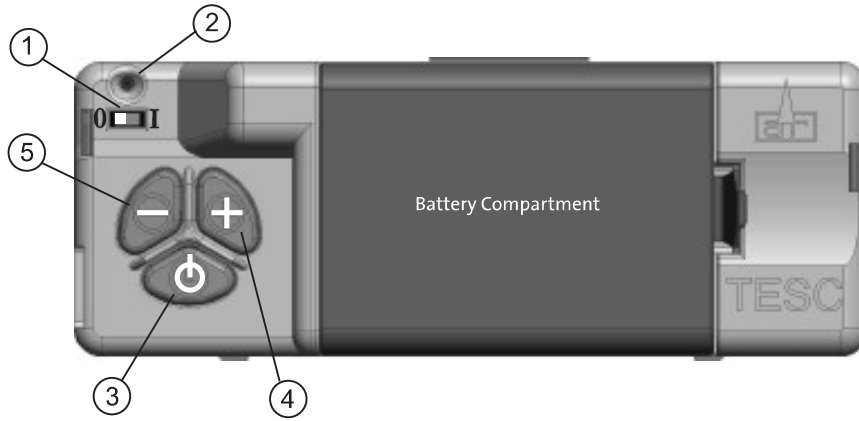

Figure 18. Valve Controls
The burner operates in conjunction with a pilot flame that is automatically lit when there is a call for heat by actuating either the valve controls or a remote control handset. The valve and burner controls are located under the firebox behind the access panel. See Fig. 18, page 16.
1. Slide the white Master switch to the left (O) position to disconnect power, Fig. 18.
1. Place the TESC valve Master power switch in the ON position. Fig. 18, #1.